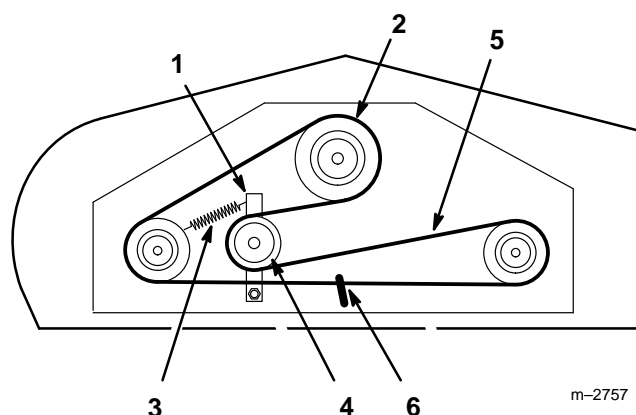

Figure 23
2. Grease the fittings on the three spindle bearings (Fig. 23).
3. Grease the pivot plate and idler arm fittings (Fig. 23).
3. Move the idler arm to relieve belt tension on the idler pulley, then remove the worn deck belt (Fig. 23).
4. Install the new deck belt around the spindle pulleys, belt guide, the idler pulley, and in the lower groove of the center spindle pulley (Fig. 23).